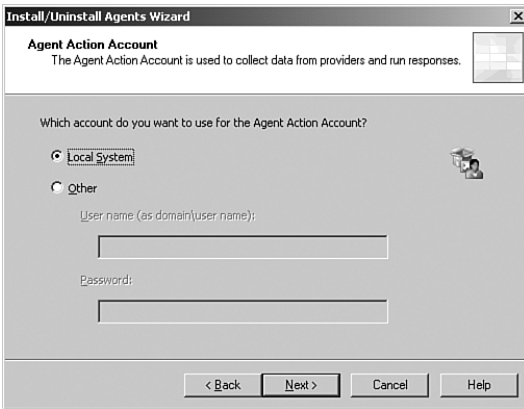

FIGURE 9.4 The Agent Action Account page.
3. At the Agent Action Account page shown in Figure 9.4, you can choose to install using the Local System account or specify a user account and password. See Chapter 11, “Securing MOM,” for more information regarding the Agent Action account requirements and required access privileges.